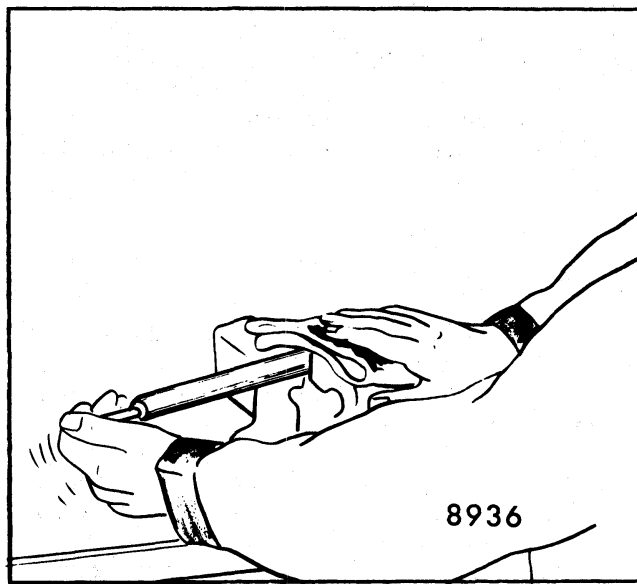

FIGURE 2
5. While still holding towel over hole, push bright shaft completely into black cylinder to purge remaining oil (Fig. 2).